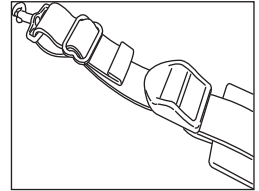

Figure 4.
5. Install the adjuster clip on the loose end of either of the shoulder straps. Install the pump clip on the loose end of the shoulder strap then route the strap back through the adjuster clip. Adjust all straps as needed. **See Figure 4.**